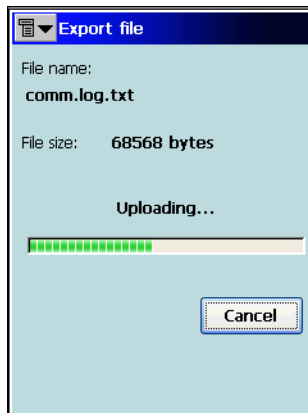

Figure 4-12. Export File
- **OK** – opens the *Export File* screen reflecting the status of exporting the selected file (Figure 4-12), then returns to the main screen if successful.